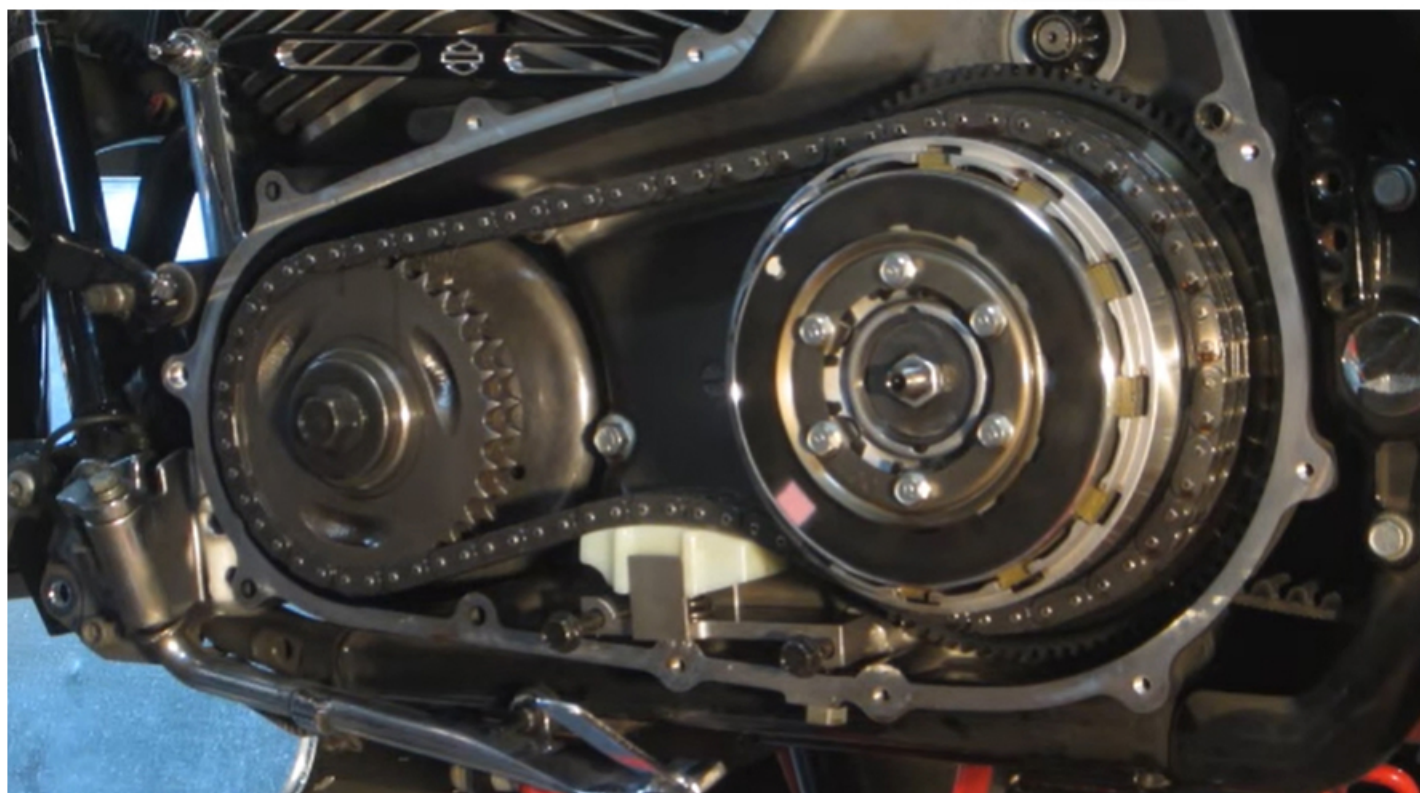

Figure 1
3. Place the thin spring inside the fat spring and place them in the hole in the bottom the shoe. With the smooth surface facing up and the circular cutout facing forward, on the shoe place the shoe and springs into the guideplate and slide it into place under the primry chain. (It may be necessary to start on the clutch side of the primary case and slide the adjuster forward, or to the center, and into final location.) See Figure 1.